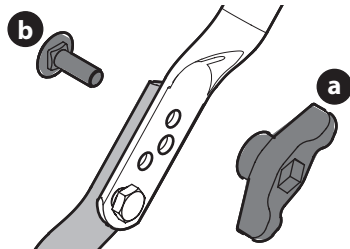

Figure 4
4. On models with adjustable handles, place the handle in the desired position and then install wing knobs (a) and carriage bolts (b) in the appropriate hole and secure the handle (Figure 4).